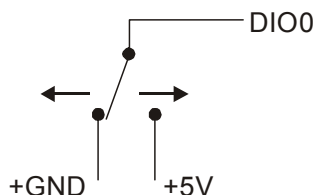

Figure 10. Digital connection DIO0 detecting the state of a switch
You can use the digital I/O terminals to detect the state of any TTL level input. In Figure 10, if the switch is set to the $+5\text{ V}$ input, and the DIO0 reads TRUE (1). If the switch is moved to GND, the DIO0 reads FALSE.